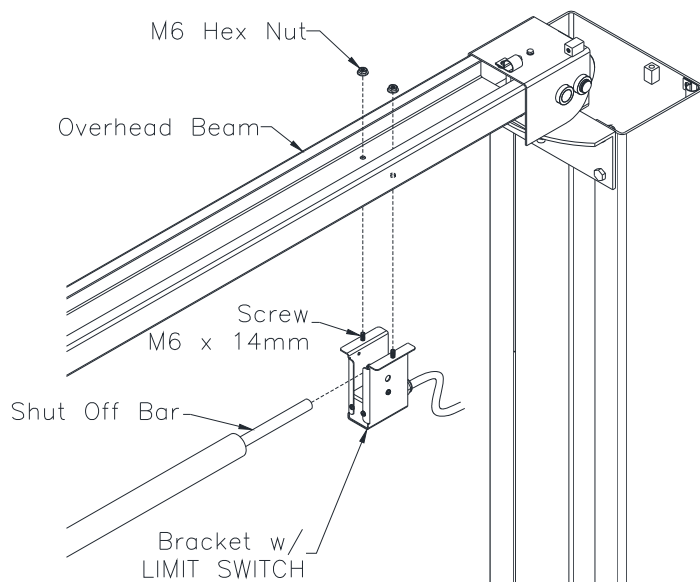

Fig 7a – Overhead Limit Switch Power Side
- 15) Install Overhead Limit Switch to the Overhead Beam on the Power Side of the lift. See **Fig 7a**.